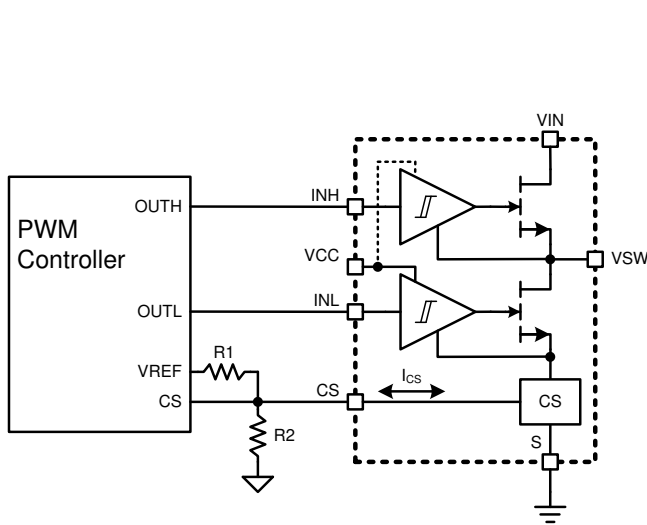

Fig. 30 Bidirectional CS System Schematic
The current flowing through the internal low-side GaN power FET is sensed internally and then converted to a current at the current sensing output pin (CS). An external resistor divider (R_1 , R_2) is connected to the CS pin and is used to set the amplitude of the CS pin voltage signal (Fig. 30). This allows for the CS pin signal to work with different controllers with different current sensing input thresholds. It is recommended to place the resistor divider close to the CS pin for improved robustness against system noise. The resistor divider is driven by an external voltage, allowing it to set the midpoint voltage at an arbitrary level. Positive current through the GaN power FET will result in a current out of the CS pin, increasing the voltage at the midpoint of the resistor divider, and negative current through the GaN power FET will result in a current into the CS pin, reducing this voltage. The CS pin current is a function of the gain factor and the absolute current in the power transistor (see Equation 1). Care should be taken in the choice of resistor values, to ensure that the voltage range corresponding to full positive to full negative current is adequately positioned within the ADC input voltage range, and the maximum voltage at the CS pin (see Equation 2).